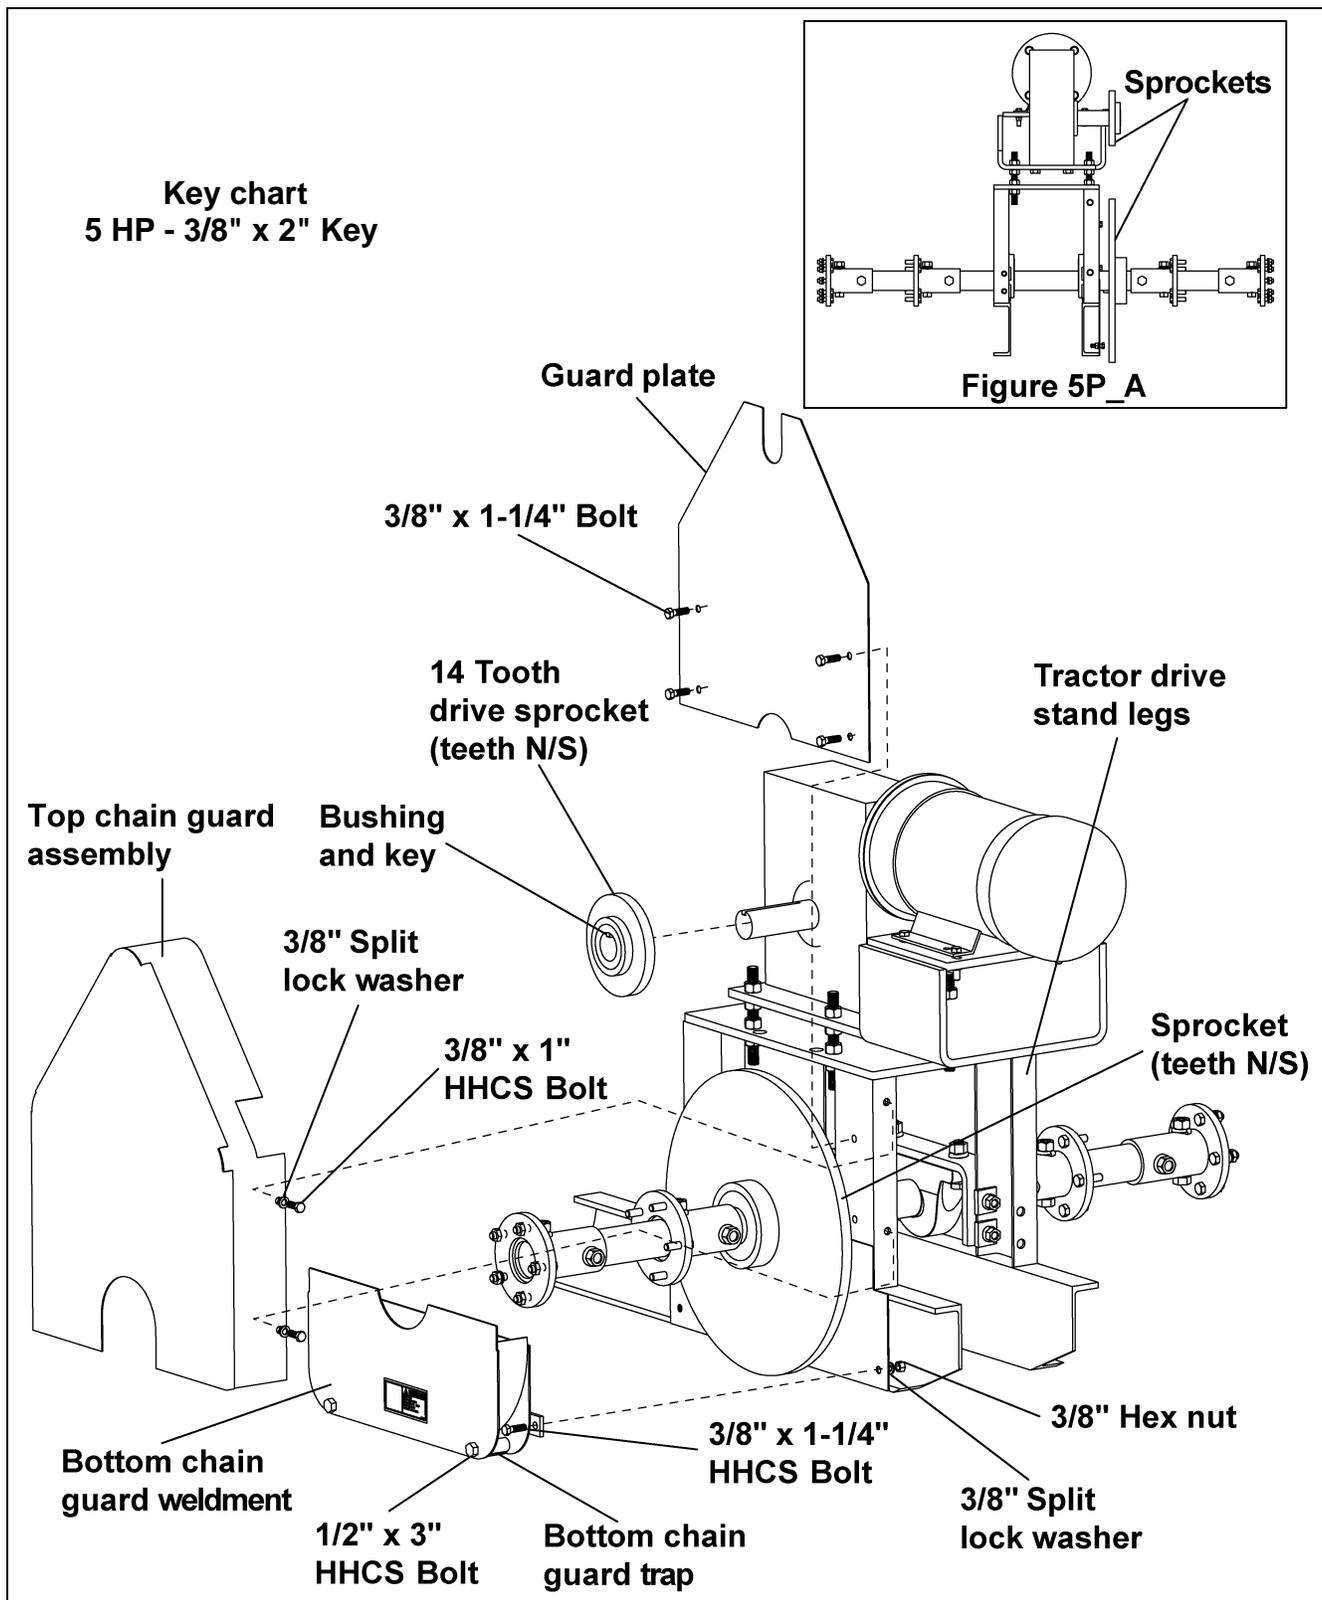

Figure 5P
- A. Attach the guard plate to the tractor drive stand legs using 3/8" bolts and nuts before attaching the drive sprocket. (See Figure 5P on Page 33.)
- B. Slide the fourteen (14) tooth (teeth N/S) drive sprocket, bushing and key (see key chart on Page 33 for the size key) onto the output shaft of the reducer, make sure both sprockets line up. (See Figure 5P and Figure 5P\_A on Page 33.)
- C. Assemble the bottom chain guard trap to the bottom chain guard weldment using 1/2" x 3" HHCS bolts, 1/2" split lock washers and 1/2" hex nuts. (See Figure 5P on Page 33.)
- D. Attach bottom chain guard weldment to tractor drive stand using 3/8" x 1-1/4" HHCS bolts, 3/8" split lock washers and 3/8" hex nuts. (See Figure 5P on Page 33.)
- E. Attach top chain guard assembly to tractor drive stand using 3/8" x 1" bolts, 3/8" split lock washers and 3/8" hex nuts. (See Figure 5P on Page 33.)